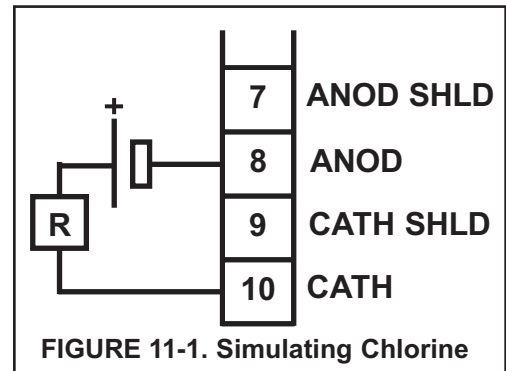

FIGURE 11-1. Simulating Chlorine
1. Disconnect the anode and cathode leads from terminals 8 and 10 on TB1 and connect a decade box and 1.5V battery as shown in Figure 11-1. It is not necessary to disconnect the RTD leads.